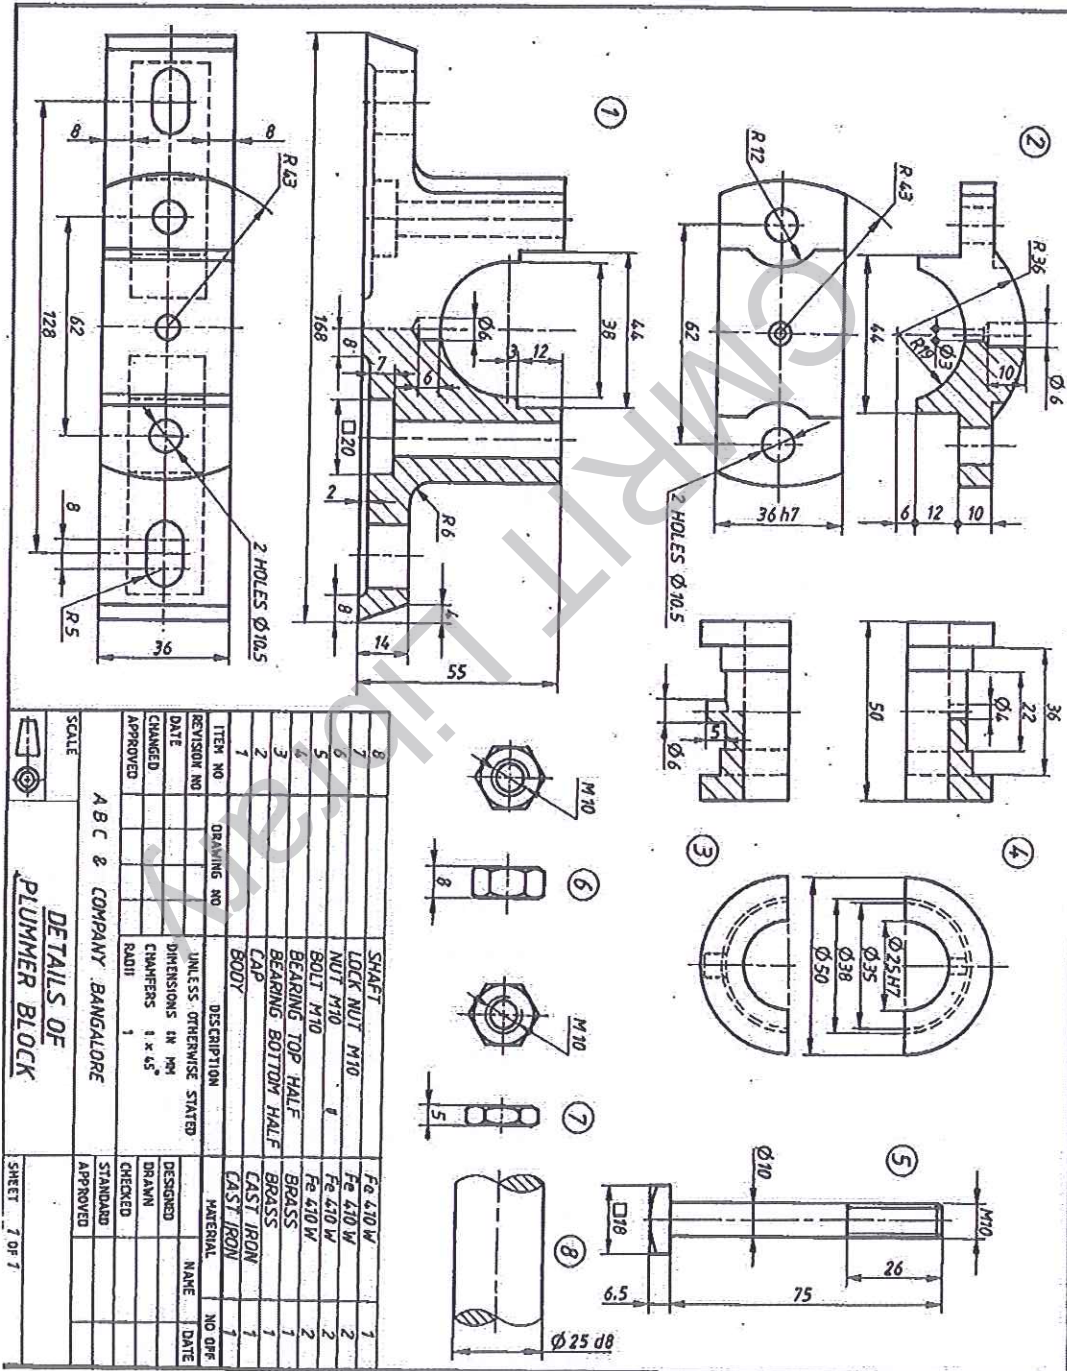

Figure 1 "PLUMMER BLOCK"
**Q.No.5** Details of a "PLUMMER BLOCK" are shown in Figure 1. Assemble the parts and draw the following views of the assembly: